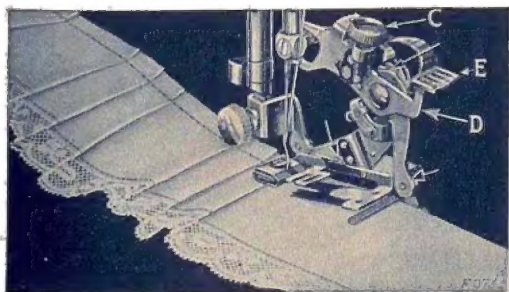

FIG. 65
The ruffler can be adjusted for group plaiting by lifting the adjusting lever (E, Fig. 65) and moving
it to the right so that the top of the projection (D, Fig. 65) enters the small slot indicated by the star on the adjusting lever. This should be done at the points where you wish to make the space between the plaits. The ruffler will then stop and plain stitching will be made. When the desired space has been made, adjust the lever (E) so that the projection (D) enters either the slot marked "6" or the slot marked "12." By alternately making groups of plaits and plain spaces, as shown in Fig. 65, very attractive work can be produced.
Occasionally apply a drop of oil to the working parts of the ruffler at each of the places indicated by the unlettered arrows in Fig. 65. After oiling, operate the ruffler on a waste piece of material to prevent the oil soiling the work. If the ruffler does not plait evenly, a drop of oil may remedy the trouble.